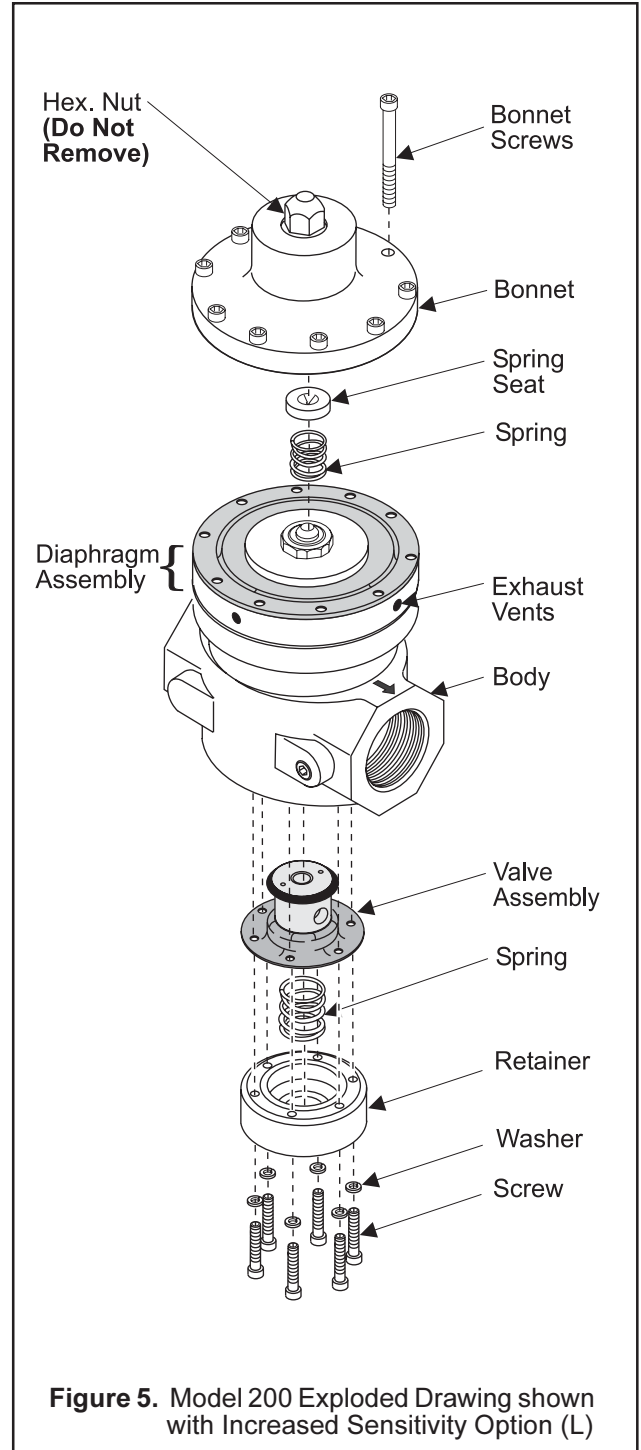

Figure 5. Model 200 Exploded Drawing shown with Increased Sensitivity Option (L)
2. Remove the six screws from the bottom of unit. For more information, see Figure 5.
3. Remove the Valve Assembly. For more information, see Figure 5.
5. Replace the assembly carefully. Ensure that the Exhaust Vents in the Spacer Ring are clear. For more information, see Figure 5.